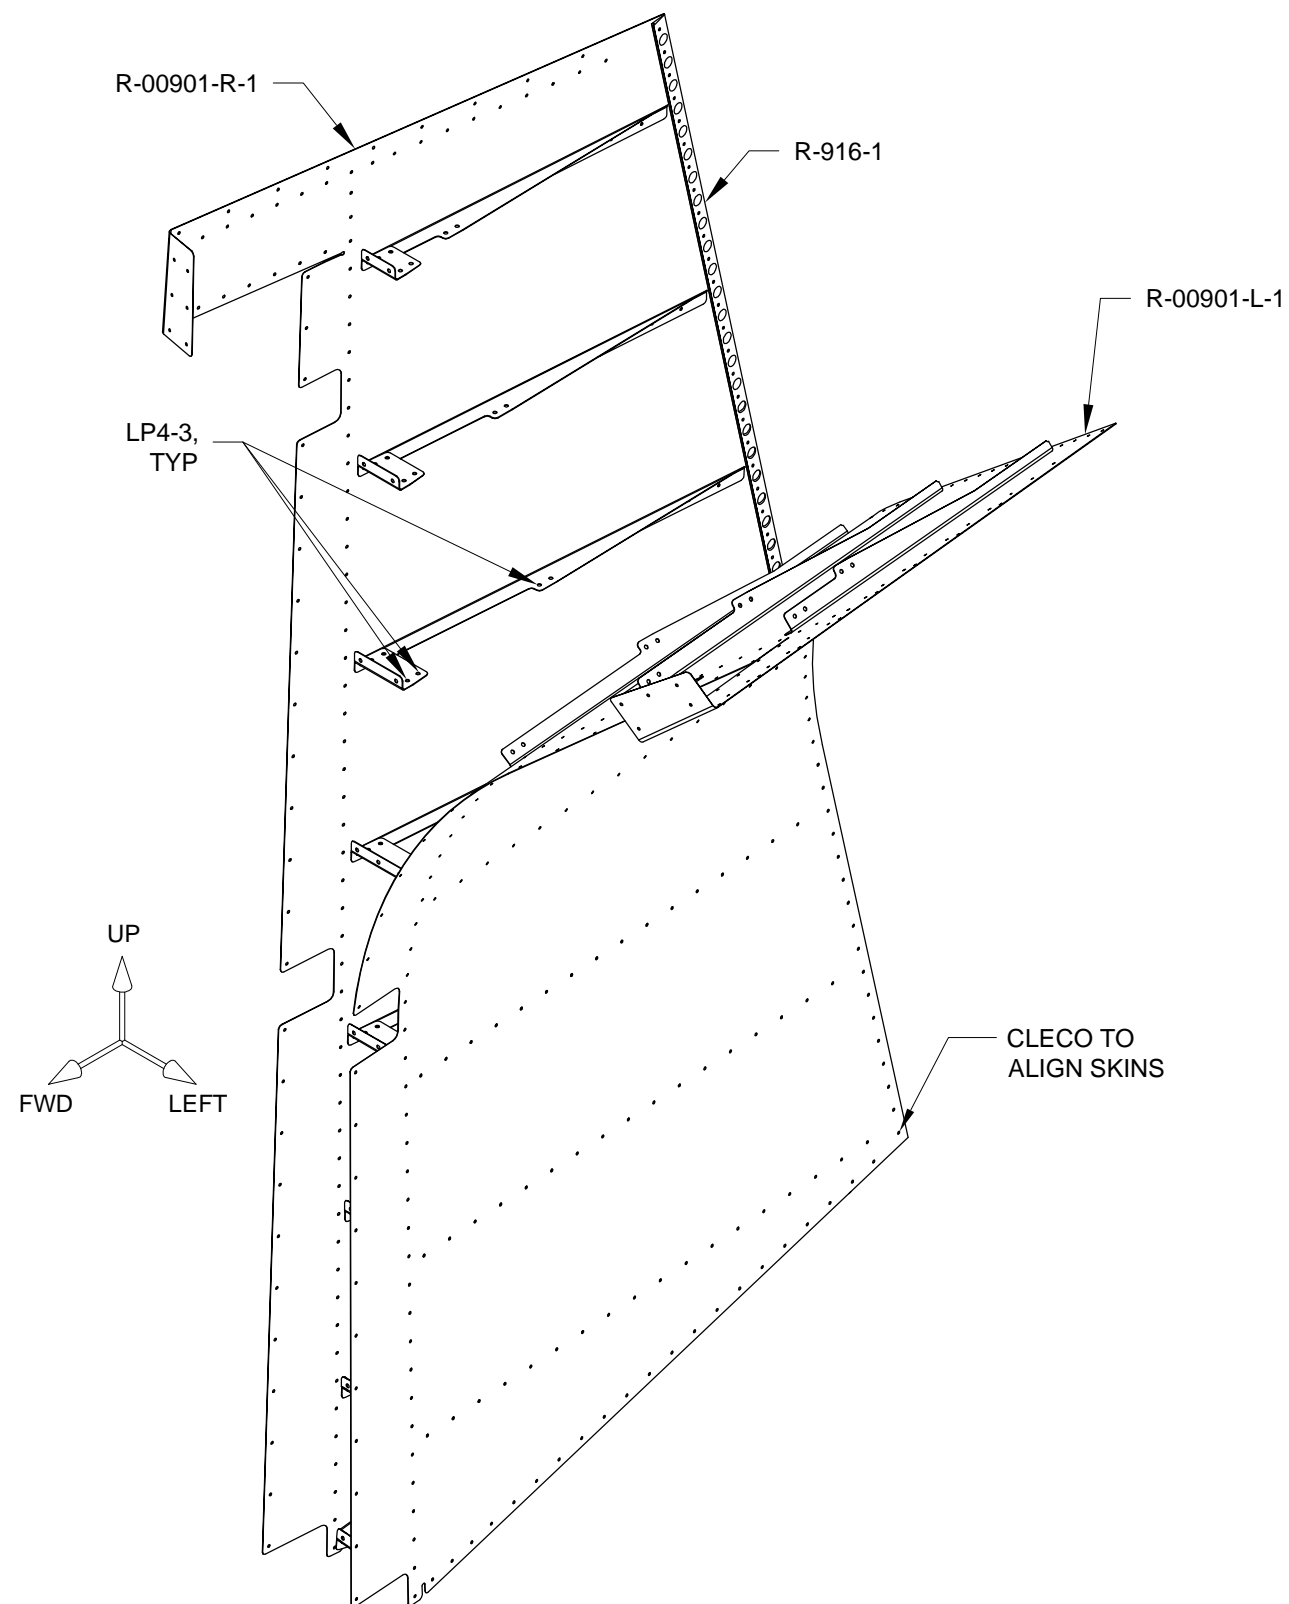

FIGURE 1: JOINING THE SKINS
Step 4: Repeat Step 3 for the rest of the R-00915-1 Stiffeners and R-00914 Shear Clips. Place the aft end of the left stiffener on top of the right stiffener and the forward end of the stiffener below the shear clip as shown in Figure 1 and on Page 07-06 Figure 2.
Cleco then rivet the spar assembly to the R-00914 Shear Clips using the rivets called out in Figure 1.